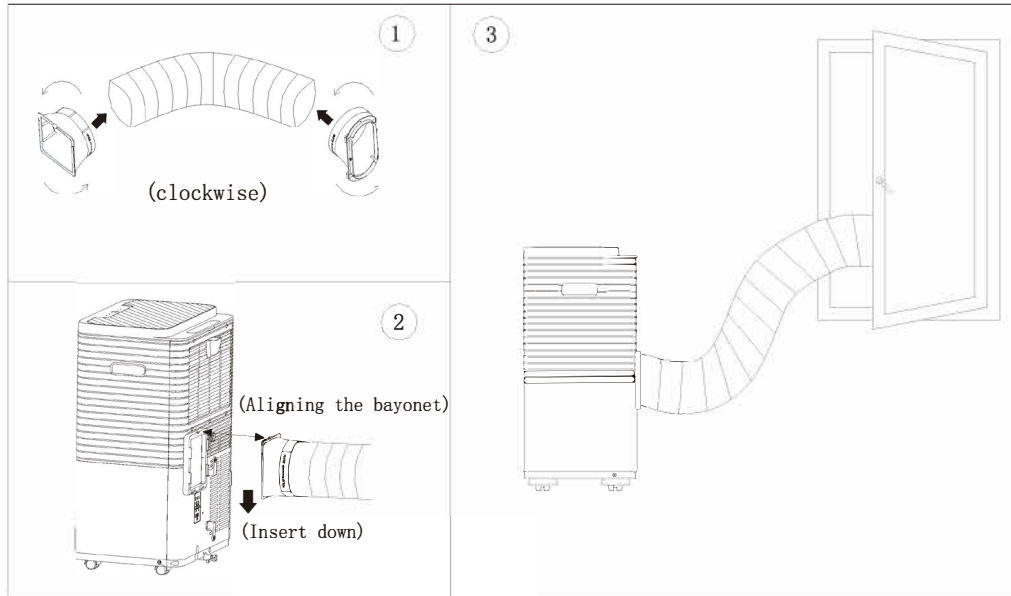

Fig. 9
3. Put the other end of the exhaust hose to the near window sill(see Fig 9)